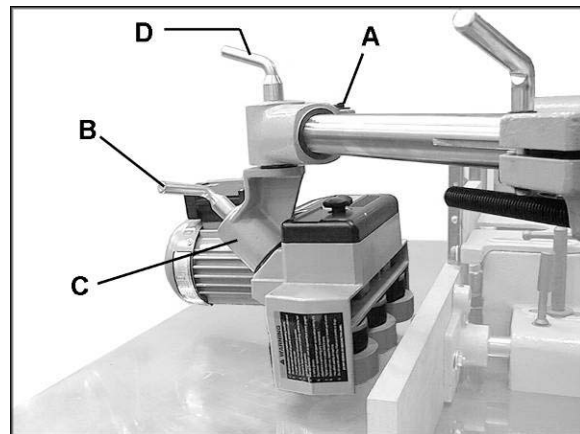

Figure 10
The stock feeder can be turned "edgewise" so that the feed is along the side of the workpiece. See Figure 10.
1. Loosen the screw on the arm cone (A, Figure 10) with a 14mm wrench, and slide the Stock Feeder off the horizontal arm.
2. Place the Stock Feeder edgewise with the rollers toward the bottom, as shown in Figure 10.
3. Loosen lock handle (B, Figure 10) and rotate the swivel cone (C, Figure 10) 180-degrees, as shown in Figure 10.
4. Re-tighten lock handle (B, Figure 10).
5. Loosen lock handle (D, Figure 10) and rotate the arm cone as needed until it can slide back onto the horizontal arm. Tighten locking handle (D, Figure 10).
6. Mount the Stock Feeder to the horizontal arm and tighten the screw (A, Figure 10).